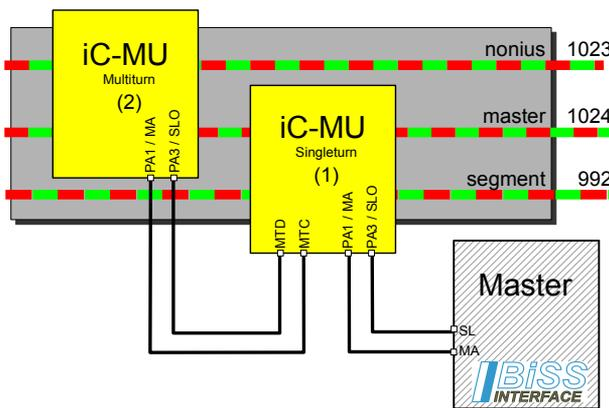

Figure 41: 3-track nonius with 2 iC-MU
The construction of such a system is shown as an example in Figure 41 and the configuration in Table 65.
Table 65: Configuration example for the 3-track nonius system of Fig.41
To facilitate the initial configuration of an iC-MU as a SSI multiturn device the command SWITCH can be used (see page 54). The singleturn iC-MU (1) in Figure 41 has to enable the direct communication to the multiturn sensor by setting GET\_MT to 1. The configuration of iC-MU (2) can take place using the BiSS protocol. After the configuration of the external multiturn MODEA\_NEW and RPL\_NEW are used to set the target configuration of MODEA and RPL. After that the